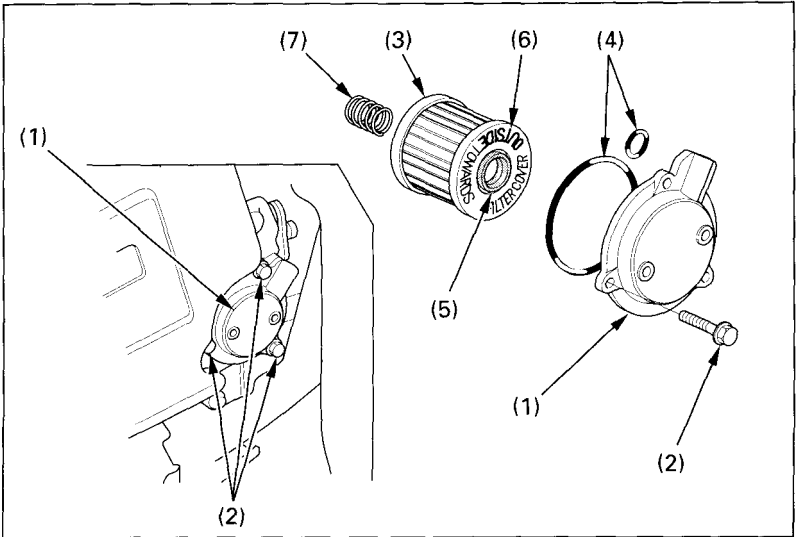

Fig. 4-13 (1) Oil filter cover (2) Bolts (3) Oil filter (4) O-rings (5) Rubber seal (6) OUTSIDE mark (7) Spring
3. Remove the oil filter cover (1) (Fig. 4-13) by removing the bolts (2). Let the remaining oil drain out. Discard the oil filter (3).
4. Check that the oil filter cover O-rings (4) are in good condition and then install a new oil filter. Use only the Honda genuine oil filter or a filter of equivalent quality specified for your model. Using the wrong Honda filter or a non-Honda filter which is not of equivalent quality may cause engine damage.
5. Install the filter with the rubber seal (5) facing out, away from the engine. You will see the "OUTSIDE (TOWARDS FILTER COVER)" mark (6) on the filter body, near the seal.